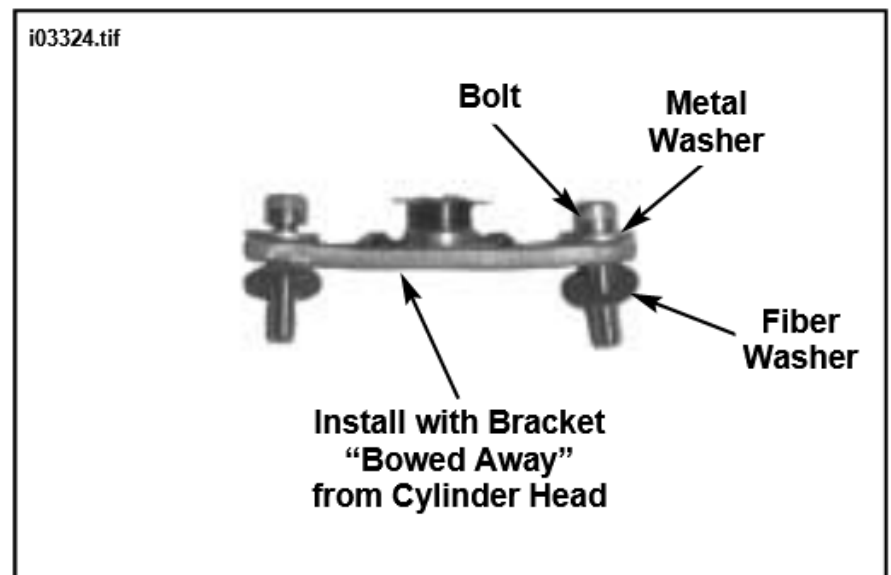

Figure 8. Thermostat Hardware
- See Figure 8. Orient thermostat bracket so bracket is "bowed away" from cylinder head and align holes in thermostat bracket with holes in cylinder head cover. Install new longer bolts (P/N AA0408.2CZ) using new fiber washers (P/N 63858-49) and flat metal washer (P/N BA0409.1Z) from kit. Tighten bolts to 10.0-13.0 ft-lbs (13.6-17.6 Nm).